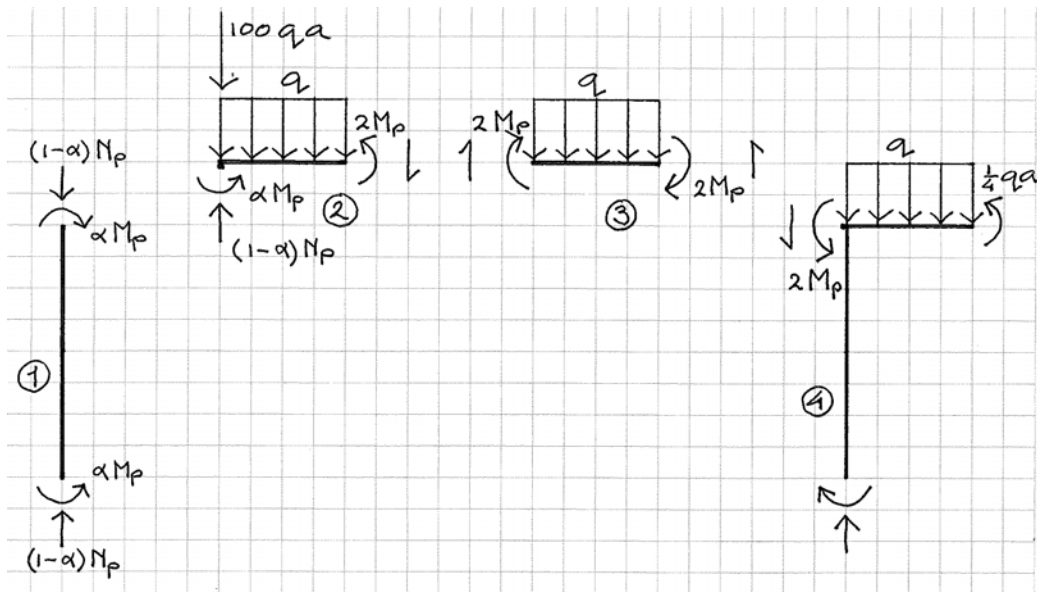

Figure 3. Equilibrium system for including M-N interaction
– Use Fig. 3 to determine the largest lower-bound for  $q$ .